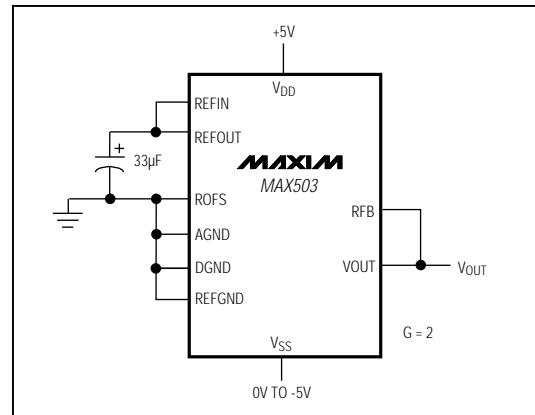

Figure 10. Unipolar Configuration (0V to +4.096V Output)
A 0V to  $2V_{REFIN}$  unipolar output range is set up by connecting ROFS to AGND and RFB to VOUT (Figure 10). Table 4 shows the DAC-latch contents vs. VOUT. The MAX503 operates from either single or dual supplies in this mode. In this range,  $1LSB = (2)(V_{REFIN})(2^{-10}) = (V_{REFIN})(2^{-9})$ .